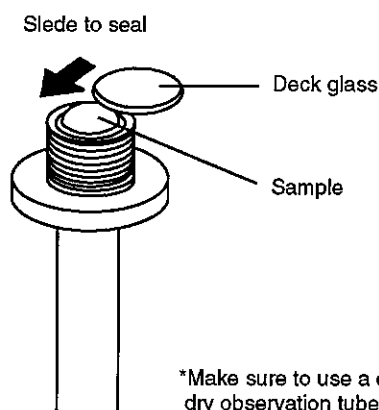

Fig. 4-3
(4) Pouring sample into observation tube (Figure 4-3)
- ① Turn either of the fastening rings counterclockwise to remove it, and remove the rubber ring and deck glass in the same side.
- ② While holding a proper observation tube vertically, carefully pour sample becomes round by the surface tension. Next, gently slide the deck glass onto the end of the glass tube from a side so as to slice off the liquid surface. If the deck glass is well slid to seal the glass tube, there is no air bubble remaining in the glass tube.
- ③ Put the rubber ring on the deck glass and then tighten the fastening ring by screwing it.